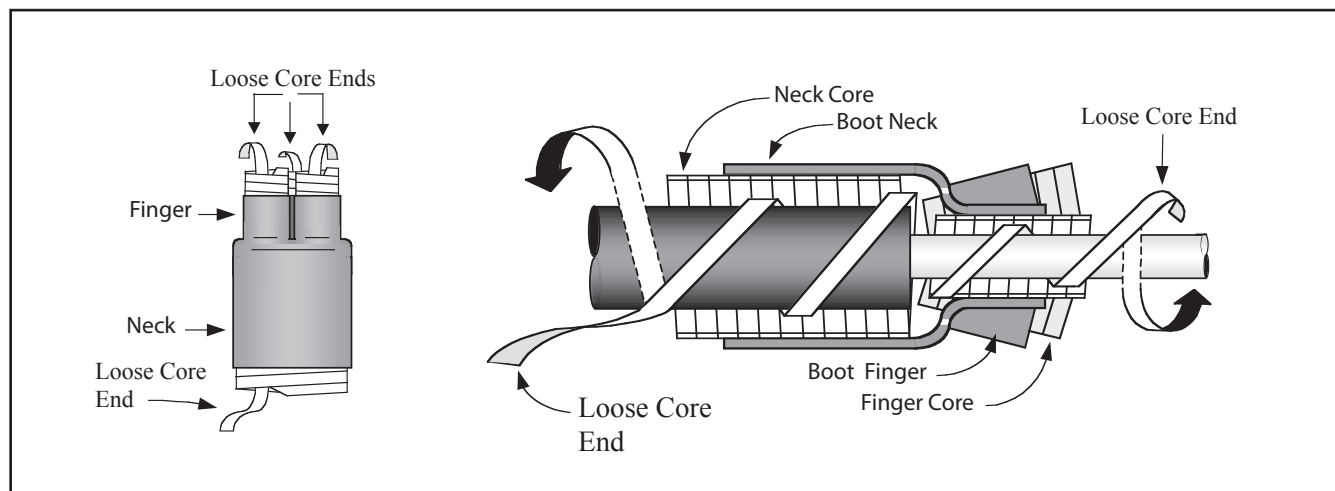

Figure 13
3.1 Inspect breakout boot assembly and confirm that all loose plastic core ends are free as shown (*Figure 13*).